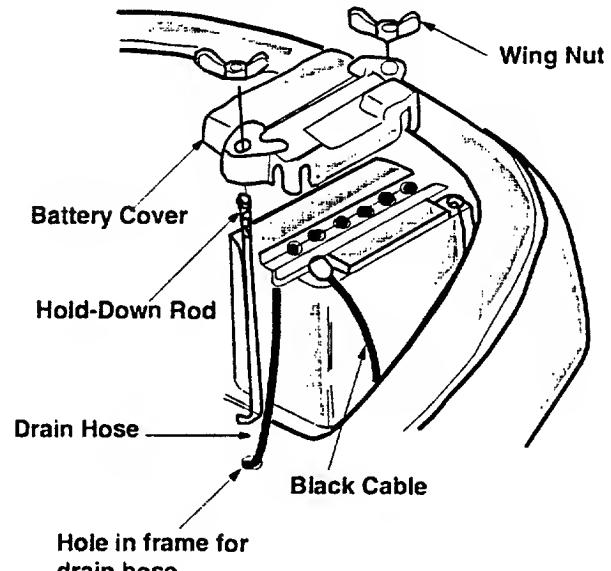

Figure 4
- Replace the cell caps on the battery. Make sure that the drain tube is attached and routed properly. Refer to Figure 4.
- Place the battery into the battery opening with positive terminal toward the rear of the unit. Make certain both the negative (black) cable and the positive (red) cable are routed up through the battery opening. See Figure 4.
- Attach the positive (red) cable to the positive terminal of the battery. See Figure 4. Secure with hex bolt and nut provided with the battery. Slide rubber boot over the positive terminal.
- a hex bolt and nut provided. See Figure 4.
- Route the battery drain tube through the opening in the mower frame. See Figure 4.
- Pull up on the hold-down rods through the slot on the battery cover and insert one wing nut on each hold-down rod. Tighten the two wing nuts to secure the battery to the unit. See Figure 4.